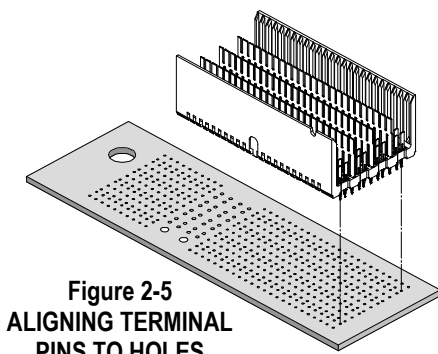

Figure 2-5
- Carefully locate the connector(s) on the printed circuit board and start in by hand. Make sure pin 1 is in the correct position on all connectors. See Figure 2-5.